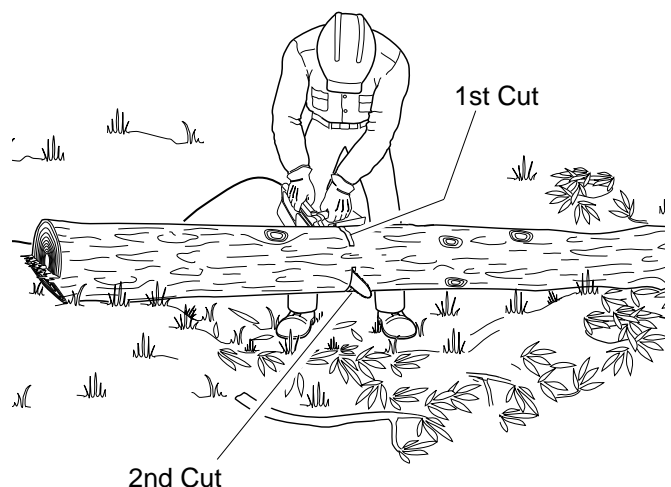

Figure 13 - Bucking Log When Log Is Supported On Both Ends
1. Make first cut from above log (see Figure 13). Cut 1/3 through diameter of log. This cut will keep section from splintering when cut.